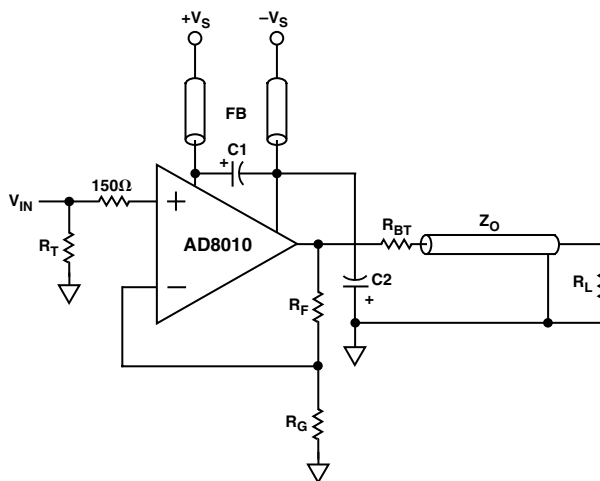

Figure 29. Standard Noninverting Closed-Loop Configuration with Recommended Bypassing Technique
To achieve these levels of performance special precautions with respect to supply bypassing are recommended (Figure 29). This configuration minimizes the contribution from high frequency supply rejection to differential gain and phase errors as well as reducing distortion due to harmonic energy in the power supplies.
The standard noninverting closed-loop configuration with the recommended power supply bypassing technique is shown in Figure 29. Ferrite beads (Amidon Associates, Torrance CA, Part Number 43101) are used to suppress high frequency power supply energy on the DUT supply lines at the DUT. C_1 and C_2 each represent the parallel combination of a $47 \mu\text{F}$ (16 V) tantalum electrolytic capacitor, a $10 \mu\text{F}$ (10 V) tantalum electrolytic capacitor and a $0.1 \mu\text{F}$ ceramic chip capacitor. Connect C_1 from the $+V_S$ pin to the $-V_S$ pin. Connect C_2 from the $-V_S$ pin to signal ground.
NOTE: Please see Figure 29 for Recommended Bypassing Technique.
3. Bypassing per Figure 29.